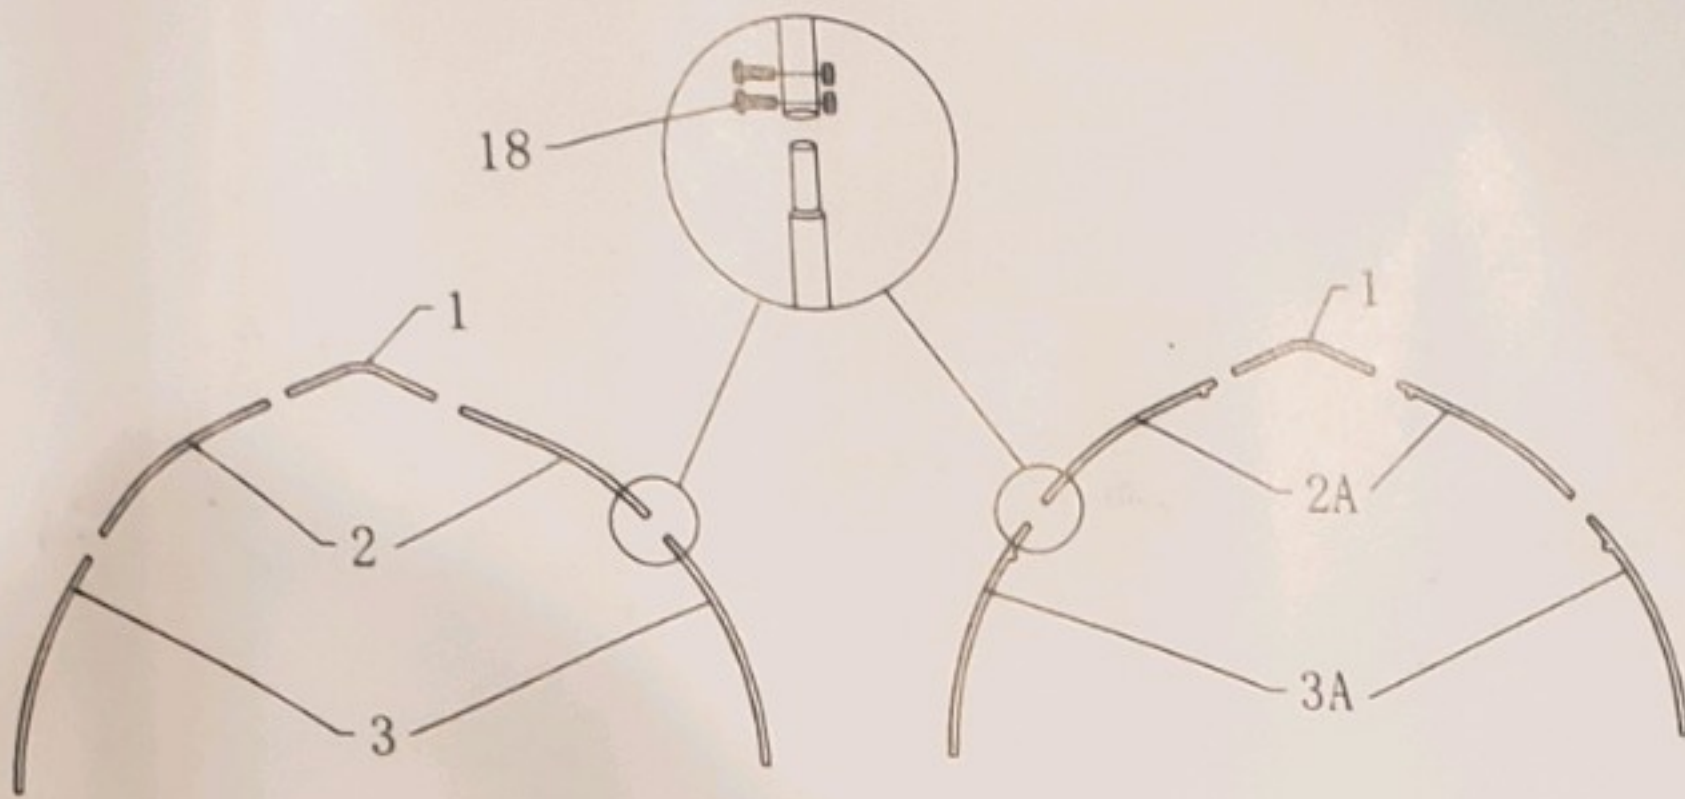

Figure 4
1. As Figure 4 shown to find one Roof Bent Tube (No.1), two Middle Bent Tubes (No. 2), Lower Bent Tube (No. 3A) and assemble every group arch with Screw M8x70 (No.18). DO NOT install the screw on the top of the truss where the fabric will rest.